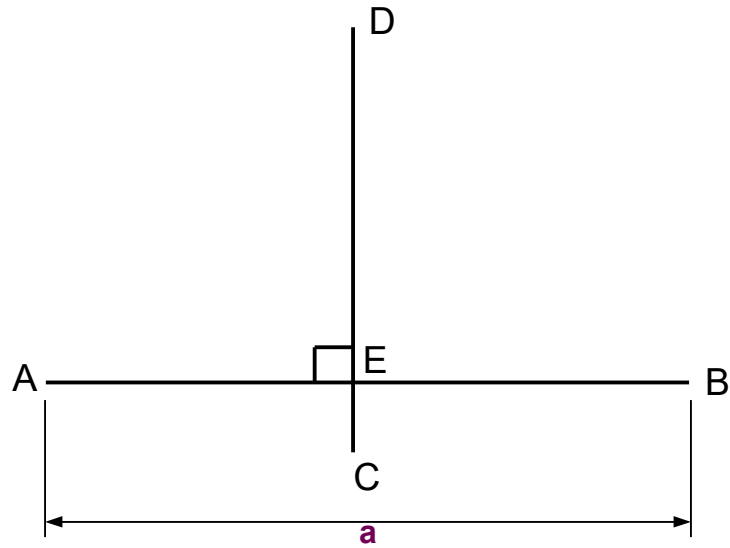

Figure 2
Step 1 (Figure 2): lay out a horizontal line AB of distance **a** and construct its perpendicular bisector CD (use the square to construct the bisector or, if you've forgotten how to do it with dividers, see *Appendix 1: constructing a perpendicular bisector* on page 8).